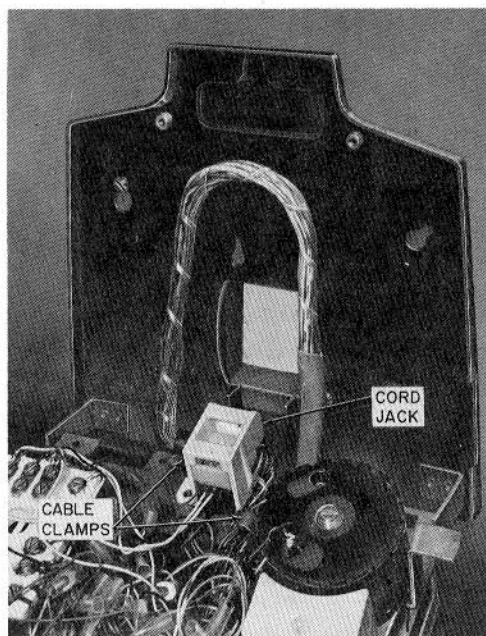
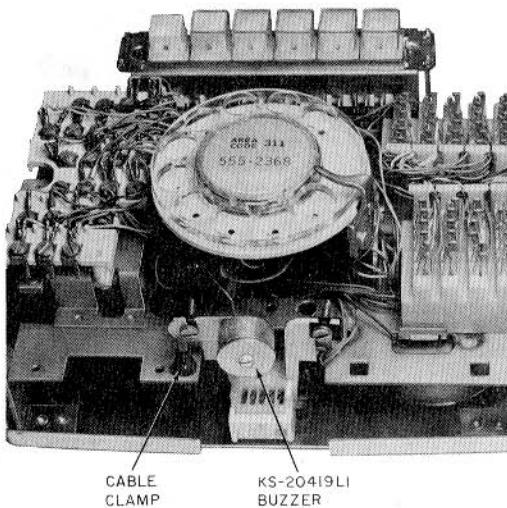

Fig. 7—Inside Wiring Cable, Exposed Wiring (Early Version)
Fig. 13—KS-20419LI Buzzer Mounted on 851-Type Telephone Set
- (1) Remove sheath to surface of outlet box or bottom of hole in base pan, depending on method of wiring.
- (2) Remove cable clamps. Pinch legs of clamp from front of chassis (Fig. 13).
- (3) Slip one of the clamps provided with set around conductors approximately 9 inches from end of sheath. Add second clamp 2 inches above first.
- (4) Form slack loop as shown in Fig. 7 or 8 and install first clamp in hole to left of cord jack.
3.06 On all sets except CM codes, if the set is served by the connector equipped end of an A25B connector cable, a D-180375 Kit of Parts must be used to obtain raw-ended conductors for termination. The mated connector and plug should be located as shown in Fig. 9. Check that connector and plug do not interfere with operation of line switch. Cable is routed and fastened in same manner as IW cable (Fig. 7 and 8).
3.16 Buzzer: The KS-20419L1 buzzer is mounted on an insulated bracket below the dial (Fig. 13). If required, an additional KS-20419L1 may be added or the existing KS-20419L1 may be replaced by the KS-8109L2 buzzer (14-30 volt ac or dc) which would be mounted using both screws.